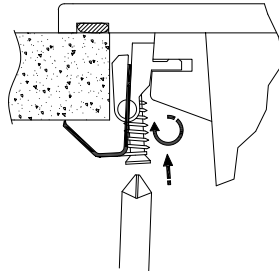

Fig 3.
10. Fix the sink to the worktop by tightening the screws on the fixing clips clockwise (fig. 3) using a crosshead screwdriver, the sink frame will pull down tight and flat to the top surface to the worktop.